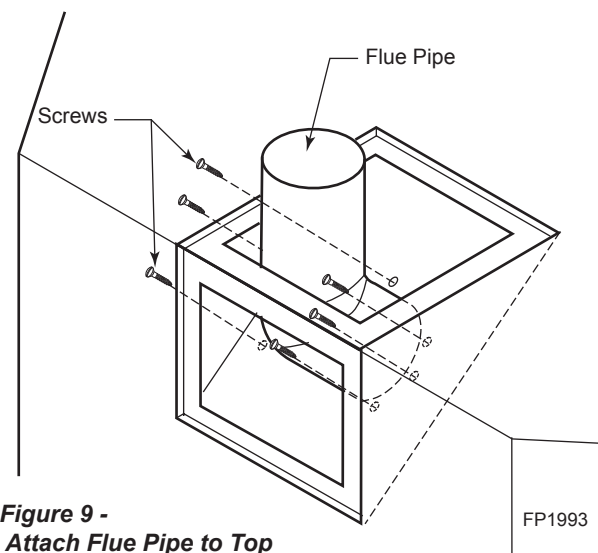

Figure 9 -
5. Replace flue pipe to top of firebox. Ensure the gasket is in place and undamaged. Secure with six (6) screws. *Figure 9*